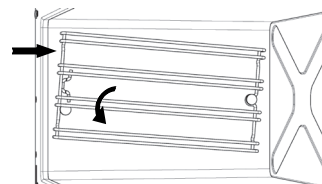

Fig. 75
- Engage the side rail assembly at the rear, then push downwards at the front (Fig. 75).